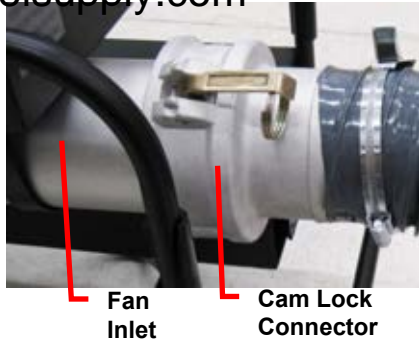

Figure 8. Negative Pressure, High-Flow Set-Up
- c. For negative pressure, high-flow testing, remove the low flow nozzle if it is installed. Then, connect the grey cast aluminum cam lock connector to the inlet side of the blower per Figure 8. Close both cam lock arms at the same time to ensure proper fit.